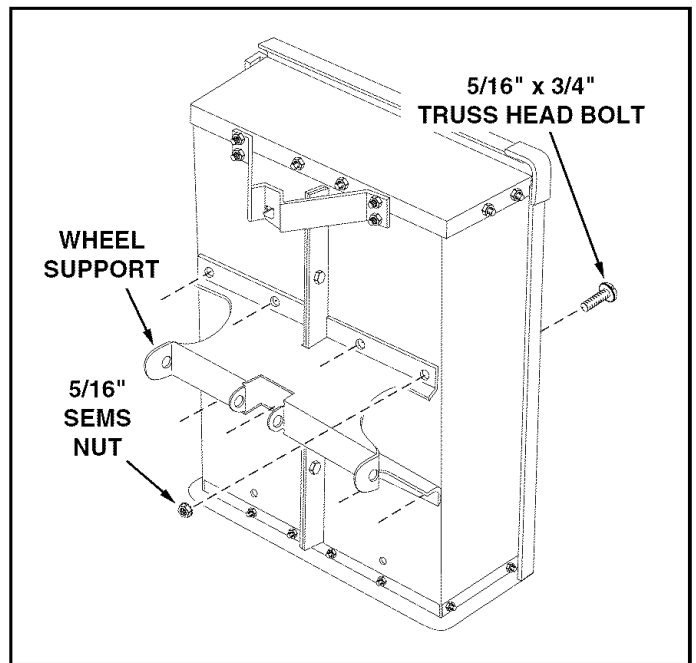

FIGURE 6
14. Assemble the wheel support to the cart using eight 5/16" x 3/4" truss head bolts and 5/16" SEMS nuts as shown in figure 6. Heads of bolts go on the inside of the cart. **Tighten**.